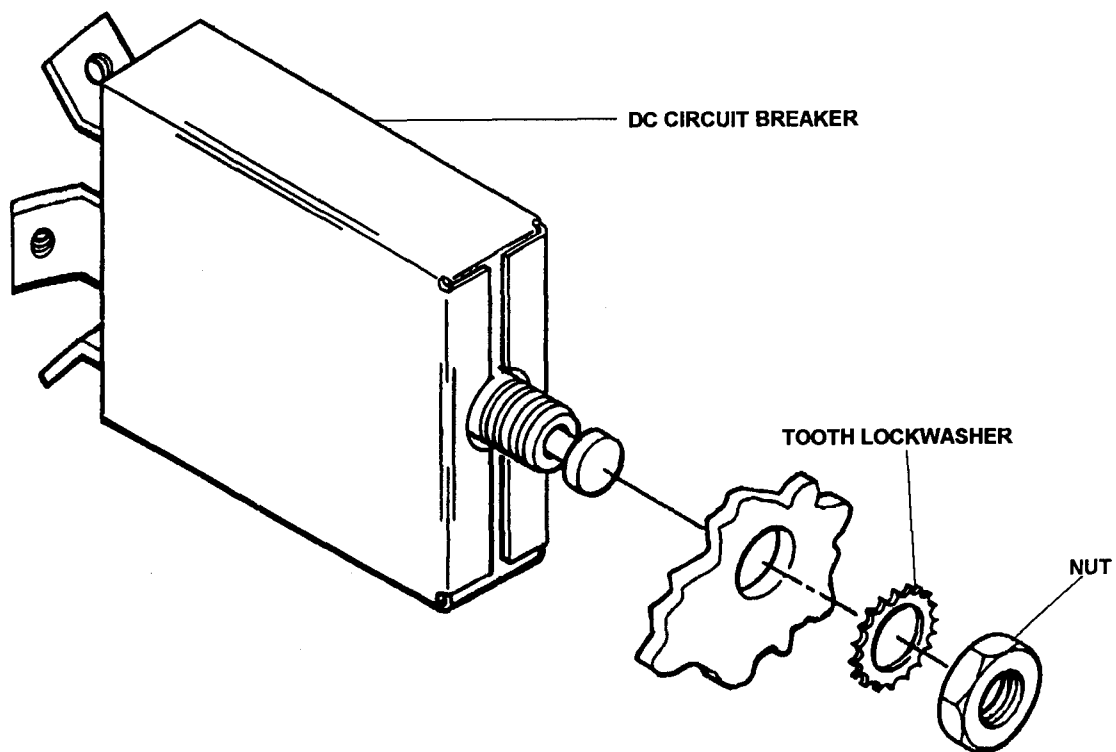

Figure 4-43. DC Circuit Breaker, Removal and Installation
- (1) Tag and disconnect electrical leads to DC circuit breaker Figure 4-43).
- (2) Remove mounting nut and tooth lockwasher to remove circuit breaker.
- (1) Position DC circuit breaker and install tooth lockwasher and mounting nut (Figure 4-43).
- (2) Connect electrical leads to DC circuit breaker.